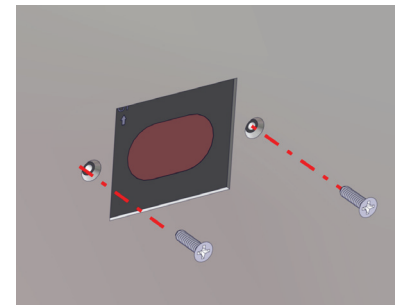

Fig. 16: Re-attach IR sensor to base front
14. Re-attach the IR sensor to the sink base front with the flathead screws (Fig. 16).